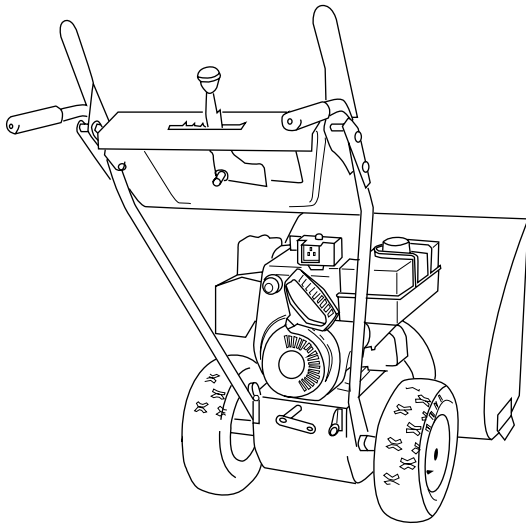
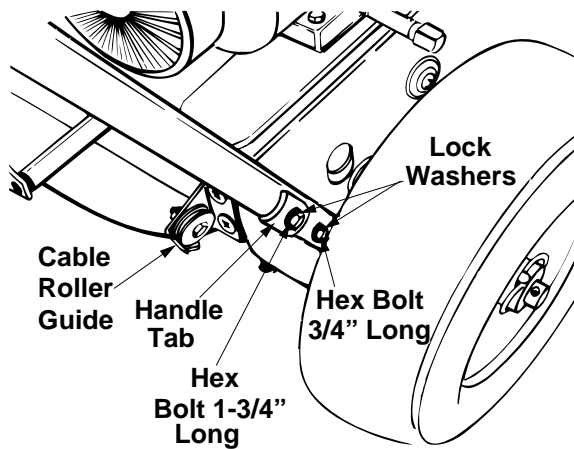

Figure 9
Figure 10
11. Raise the handle assembly into the upright position and align the top holes in the handles with the top holes in the snow thrower frame. Attach using hex bolts, lock washers and saddles. (Curve in saddle must match the curve in the handle.) See Figure 9 and Figure 10.